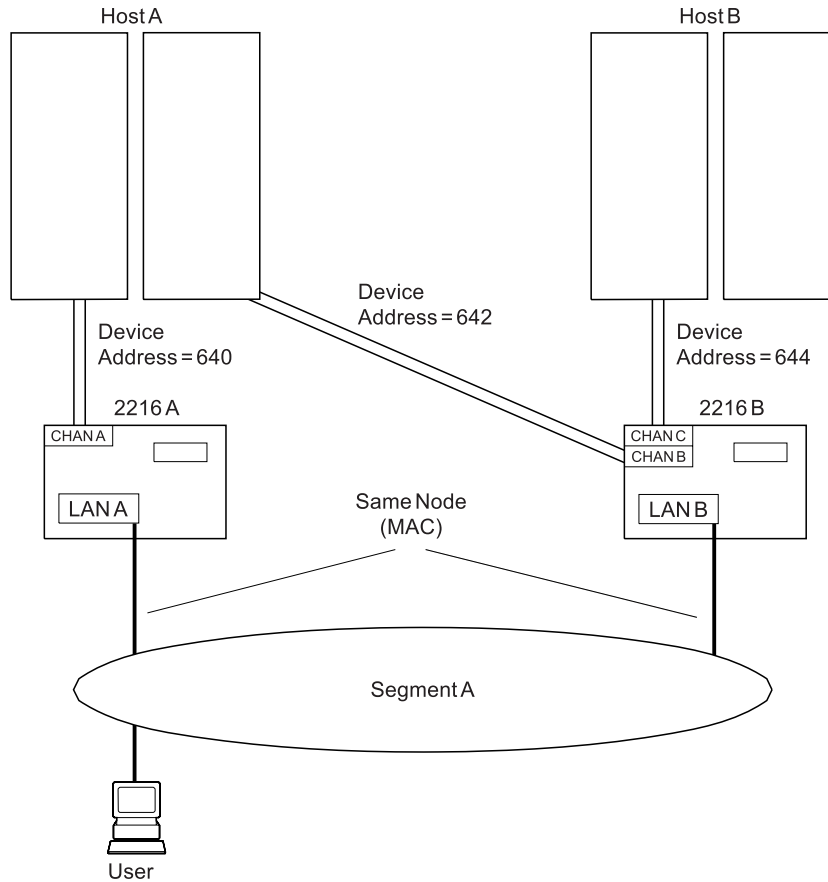

Figure 5-10. 2216 Model 400 or Network Utility and Host Backup Using One LAN Segment
Figure 5-9 on page 5-19 and Figure 5-10 on page 5-20 show sample Token-Ring LAN segments, but the same principles apply to all the LAN types supported by the 2216 Model 400 or Network Utility.
Figure 5-10 provides the same host and 2216 Model 400 or Network Utility backup as Figure 5-9 on page 5-19, except that:
To demonstrate backup in the VTAM environment using the system in Figure 5-10 on page 5-20, assume that both hosts and both 2216s are operational, and that host A and 2216A are being used as the primary system.
These steps can also be followed using the system in Figure 5-10 on page 5-20.
TCP/IP host backup is not illustrated in Figure 5-9 on page 5-19 or Figure 5-10 on page 5-20. Because each TCP/IP host requires its own LAN adapter, you will not be able to recover from TCP/IP host failures as you can with VTAM hosts. You can, however, add a LAN adapter to either 2216 Model 400 (or both if you want a backup for both hosts) and define a connection between the host and LAN adapters.
- These new adapters will not have the same node (or MAC) address as the adapters for your primary hosts (shown in Figure 5-9 on page 5-19 and Figure 5-10 on page 5-20).